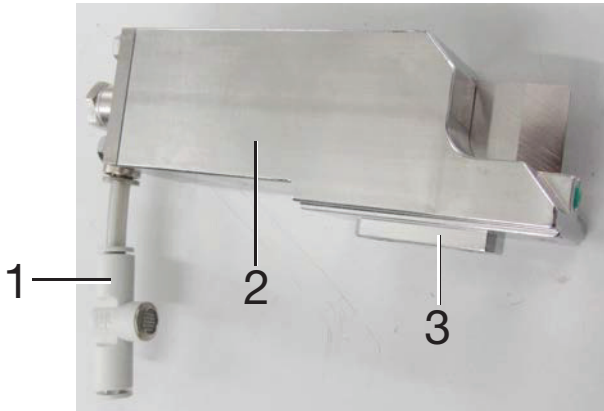

Fig. 7-31 1 Quick vent valve
- Remove the piston (3) and knife.
- Exchange the knife (1).
- Re-insert the piston (3) and knife.
- Tighten the cylinder cover with the fixing screws (2).
- Push the pneumatic hose onto the quick vent valve (1, Fig. 7-31) on the knife cylinder (2, Fig. 7-31). To do this, push the ring (1, Fig. 7-32) on the quick vent valve in the direction of the arrow, connect the pneumatic hose and release the ring.
- Insert the knife cylinder (2, Fig. 7-31) such that the rib (3, Fig. 7-31) engages in the opening (2, Fig. 7-33).